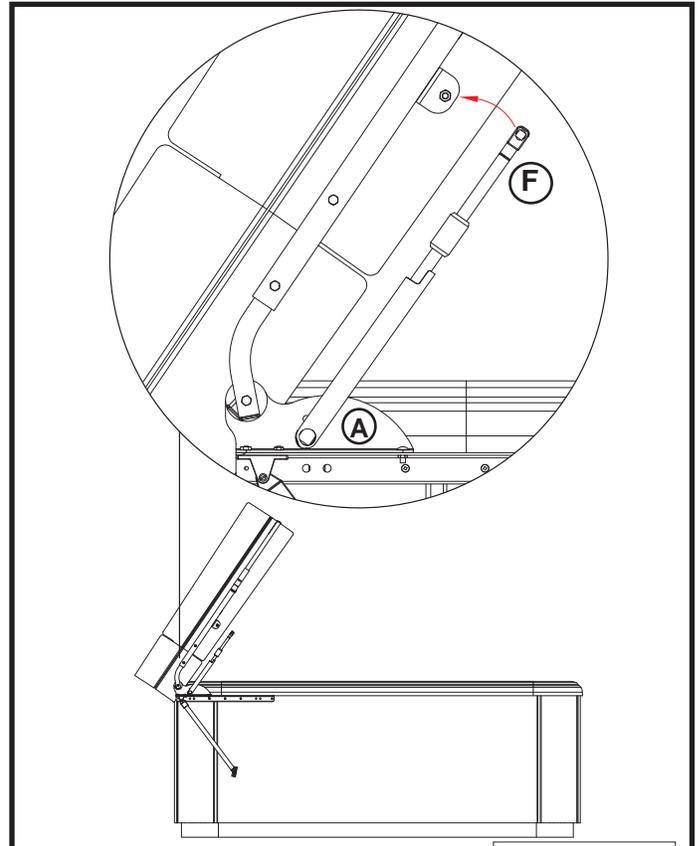

Figure 7.3
3. Open Cover and align the upper ball stud with the larger end of the Gas Spring (F) and snap into place (Figure 7.3).